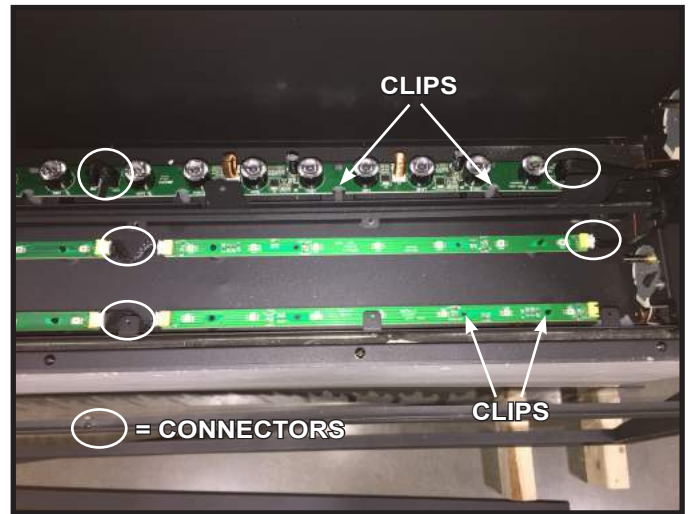

Figure 21
6. Locate Lighting LED circuit input power source connectors in rear of opening, unplug the two connectors. Unplug the connectors between the LED circuit boards. See Figure 21.
7. Using a pliers, compress each barbed clip along the base circuit boards while lifting the boards evenly to disengage them from the clips. Use pliers to open clips along rear LED strip while lifting to disengage it from the clips. See Figure 21. Remove all LED circuit boards.
8. Install replacement lighting LED circuit boards into the appliance. Fully engage all clips. See Figure 21.
9. Connect all lighting LED power source connectors to the LED circuit boards. See Figure 21.